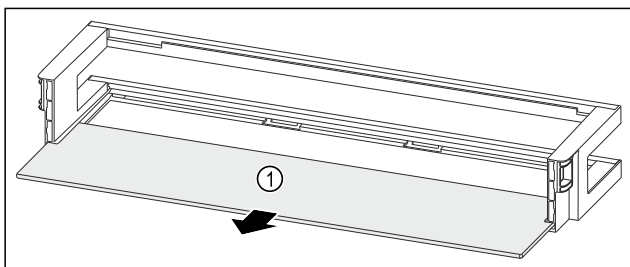

Fig. 83 Door racks with shelf
- ▶ Remove the shelf Fig. 83 (1).